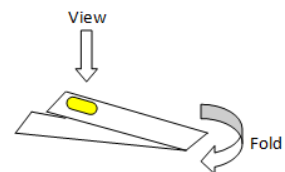

Figure 2
7. **Wait 30 seconds** for the test strip color to develop. While waiting, fold the white plastic handle of the test strip under the reagent area aperture so that it provides a consistent viewing background (Figure 2).
7. **Wait 30 seconds** for the test strip color to develop. While waiting, fold the white plastic handle of the strip under the reagent area aperture so that it provides a consistent viewing background (Figure 2). Position the reacted test strip pad behind the punched holes (view center of test strip pad through the hole in the color card).